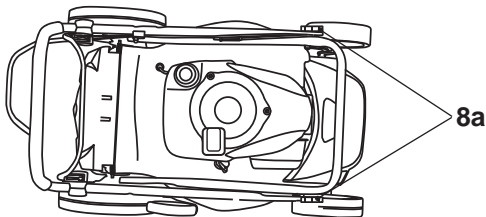

Fig. 22
Loosen the fixing knobs (8a) and fold the upper handle bar (4) for storage. Ensure the wires (5, 6) and electric cord (23) are not trapped (Fig. 22).